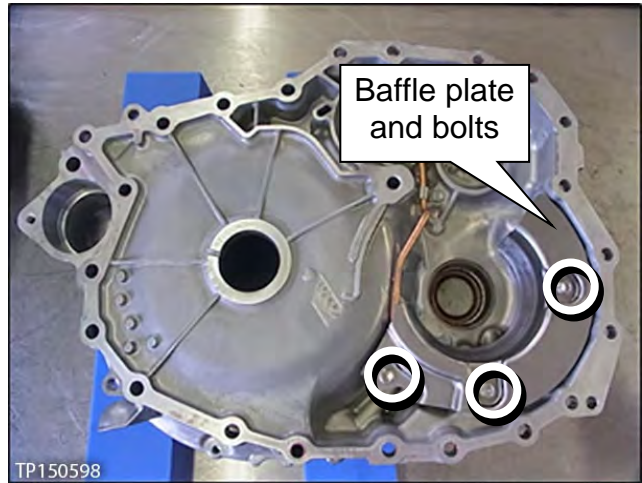

Figure 1H
a. Remove the three bolts, and then remove the baffle plate from the converter housing (Figure 1H).